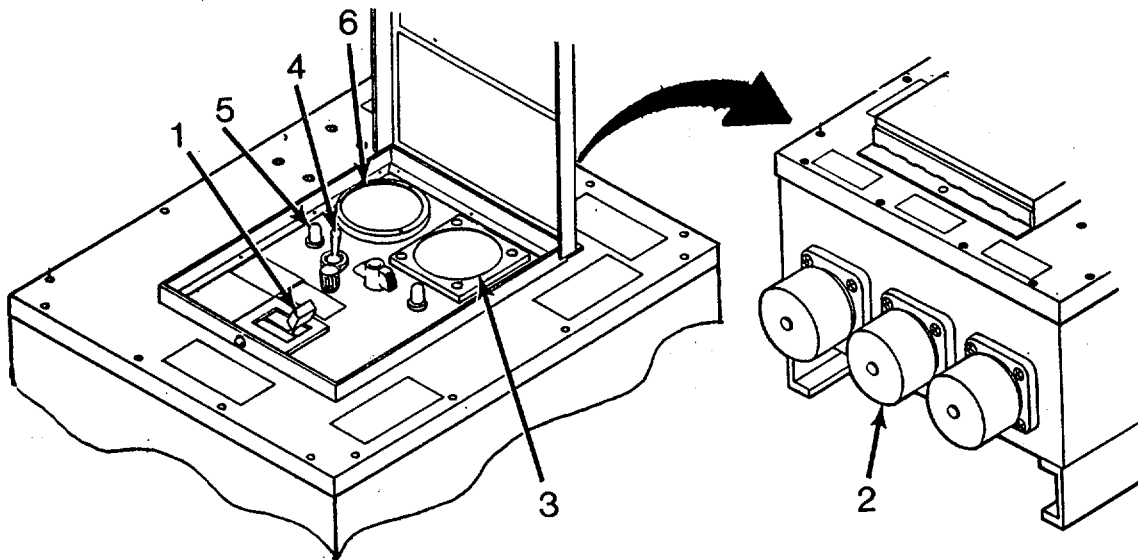

Figure 2-15. Power Distribution Box Controls and Indicators
- (4) Set main circuit breaker CB1 (1) on the Power Distribution Box in the OFF position. (Refer to Figure 2-15 for location of controls and indicators on Power Distribution Box.)
- (5) Connect power cable to the Finishing Section receptacle (2) on the Power Distribution Box. (Refer to Figure 2-15 for location of receptacle.)
- (8) Read voltmeter (3) on Power Distribution Box control panel. Voltmeter must read between 110 and 120 Vac on phases A, B, and C. (Refer to Figure 2-15 for location of controls and indicators on Power Distribution Box.)